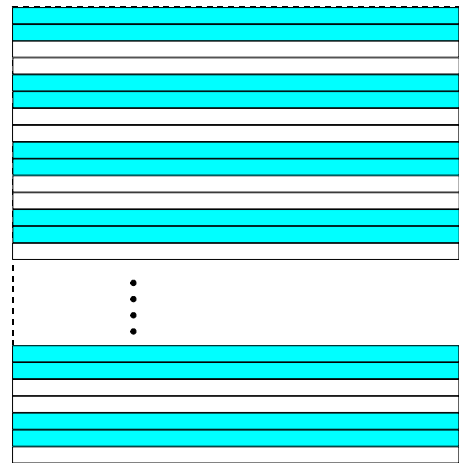

Fig. 126: Decimation of 2 (Color Cameras)
- 2 for color cameras: only every second pair of rows of the acquired frame will be transmitted out of the camera (Figure 126). And so on, up to 32.